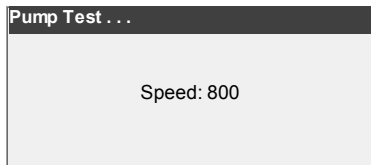

Fig. 7-29 Pump Speed
- The pump will automatically step through all the speeds used during normal operation (50 to 800 pps (pulses per second)) (Fig. 7-29) and return to the **<Tests>** screen.